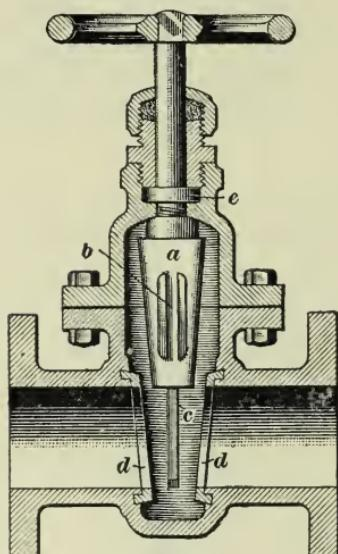

FIG. 74
**115.** The **Chapman valve**, shown in Fig. 74, is a double-gate valve with a solid or cored disk *a* made tapering, which